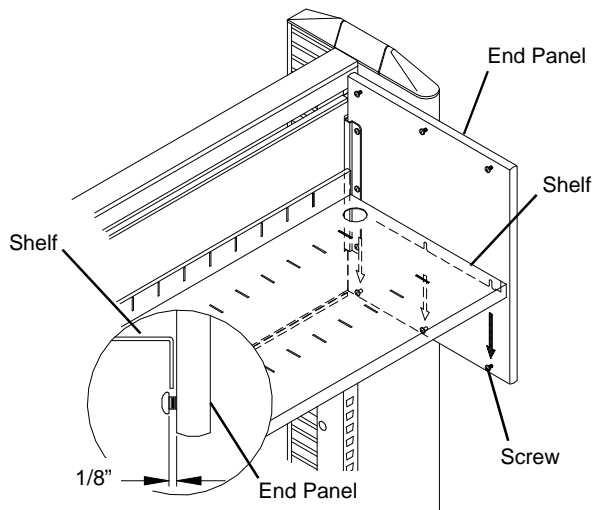

Figure 3
1. There are three factory installed screws along the top and bottom edge of each Side Panel. These screws must be backed out approximately 1/8" (3mm) as shown in **Figure 3** (inset).
2. After backing out all six lower screws, position the **Shelf** between the End Panels above the screws. Lower the Shelf so that all six screws engage their corresponding slots in the Shelf. Next, tighten the screws to secure the Shelf. See **Figure 3**.
1. Before installing the **Top**, make sure that the three screws at the top of each End Panel is backed out 1/8" (3mm) as shown in **Figure 3**.